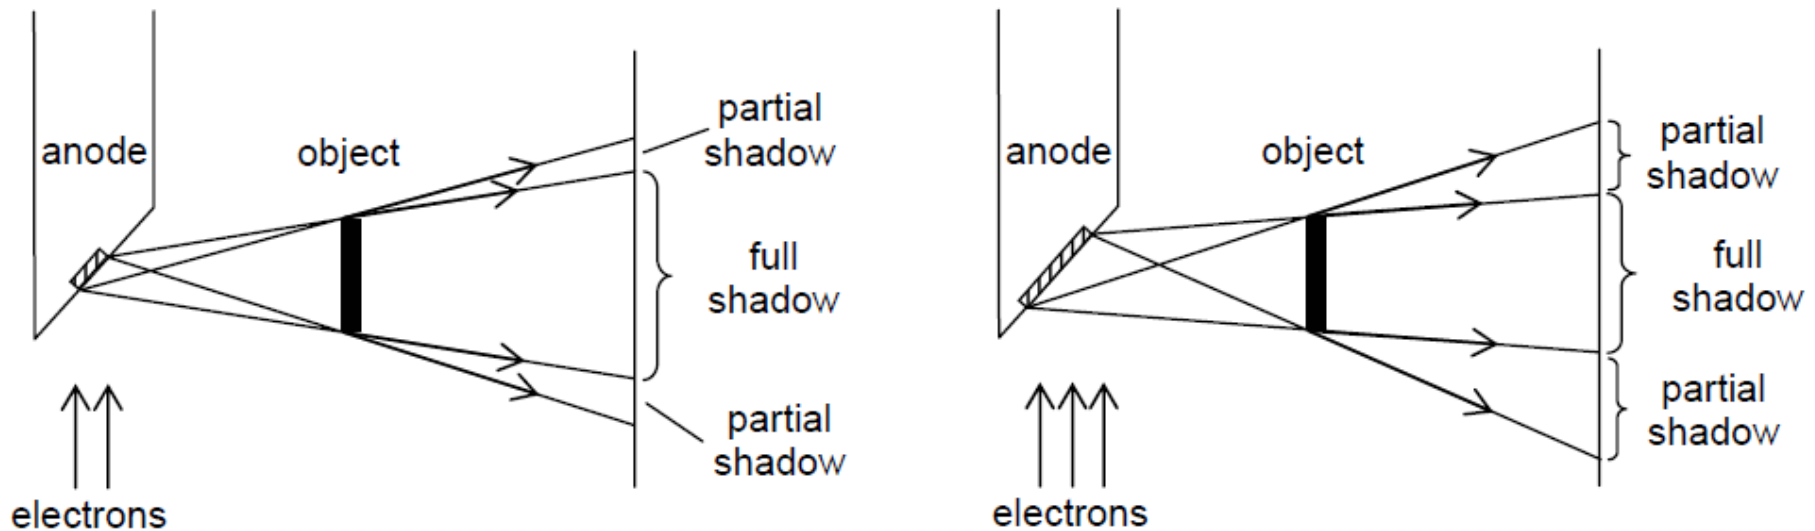

Fig. 2.3
- the area of the target anode, as illustrated in Fig. 2.3,